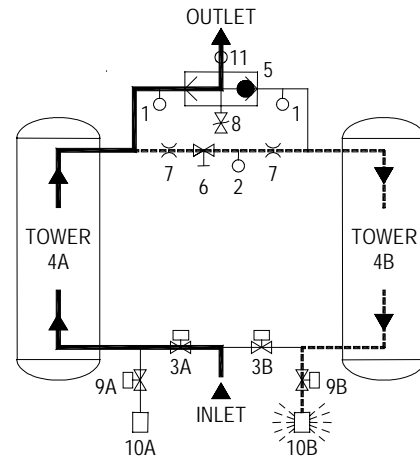

FIGURE 3-1a
(Refer to Fig. 3-1a.) Compressed air flows through inlet switching valve (3A) (normally open) to tower (4A) where the air is dried. After the air is dried it flows through shuttle valve (5) and then to the dryer outlet. A portion of the dry air, the purge stream, branches off from the main air stream prior to the outlet. The purge stream flow rate is controlled by the adjustable purge rate valve (6) and the two purge orifices (7).